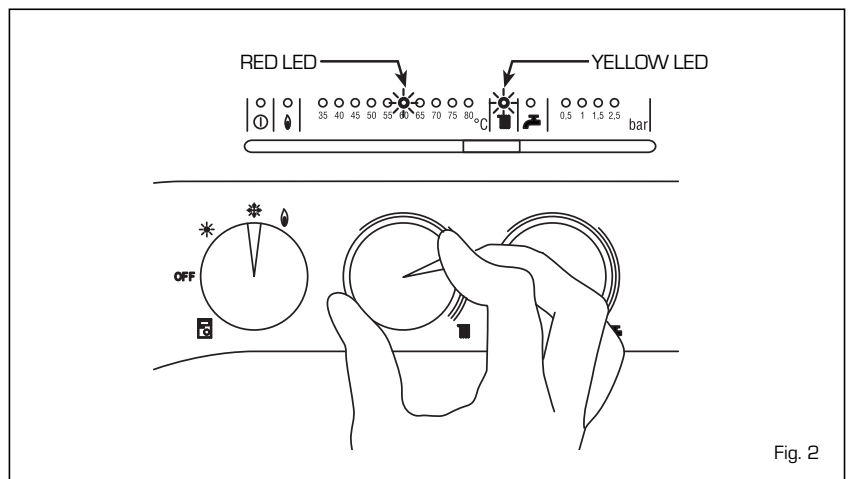

Fig. 2
1.3 TEMPERATURE ADJUSTMENT (WITHOUT LOGICA) (fig. 2)